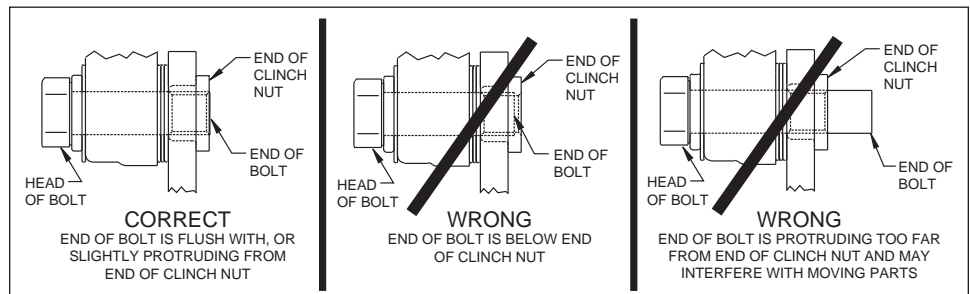

Figure 4. Clinch Nut Engagement Diagram
**Assembly Instructions** (numbers in parenthesis refer to the parts list, and Figure 1 on the preceding pages): **CAUTION:** All mounting bolts must fully engage clinch nuts. Be sure to check that all bolts are either flush or protruding through flanged side of clinch nut after shimming, Figure 4.
The rotor should be centered in the caliper, Photo 3. If not, adjust by adding or subtracting shims between the bracket and the caliper. Always use the same amount of shims on each of the two mounting bolts. **NOTE:** The end of each bolt must be flush with or slightly protruding from the head of the clinch nut, as shown in Figure 4. If necessary place spare shims between washer (4) and caliper mounting ear to achieve the proper clinch nut engagement. Once the caliper alignment and clinch nut engagement are correct, remove the bolts one at a time, apply red *Loctite*® 271 to bolt threads, and torque to 40 ft-lb.